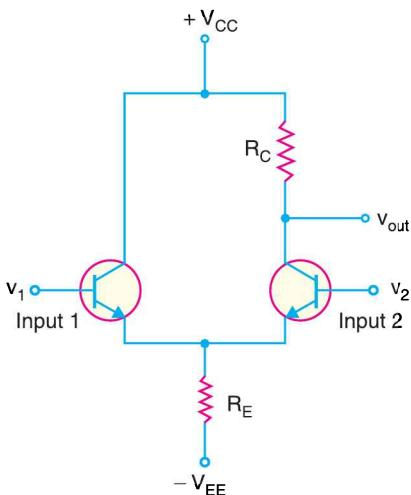

Fig. 25.20
Fig. 25.20 shows double-ended input and single-ended output differential amplifier (DA). In other words, there are two input signals and one output signal. A DA is *normally operated in this fashion. When input signal v_1 (input 1) is applied, the output signal is in phase with the input signal i.e., there is no phase shift in the output signal. For this reason, input signal v_1 is called *non-inverting input*. When input signal v_2 (input 2) is applied, the output signal is 180° out of phase with the input signal. For this reason, input signal v_2 is called *inverting input*.